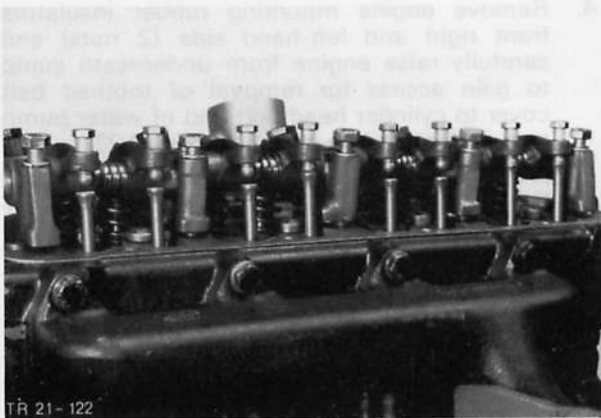

Fig. 106. Insert push rods in rocker arm sockets
20. Lubricate push rods and insert in same sequence as on removal. Fit rocker shaft, locating push rods in rocker arm sockets, Fig. 106. Tighten five upper, then three lower bracket bolts.